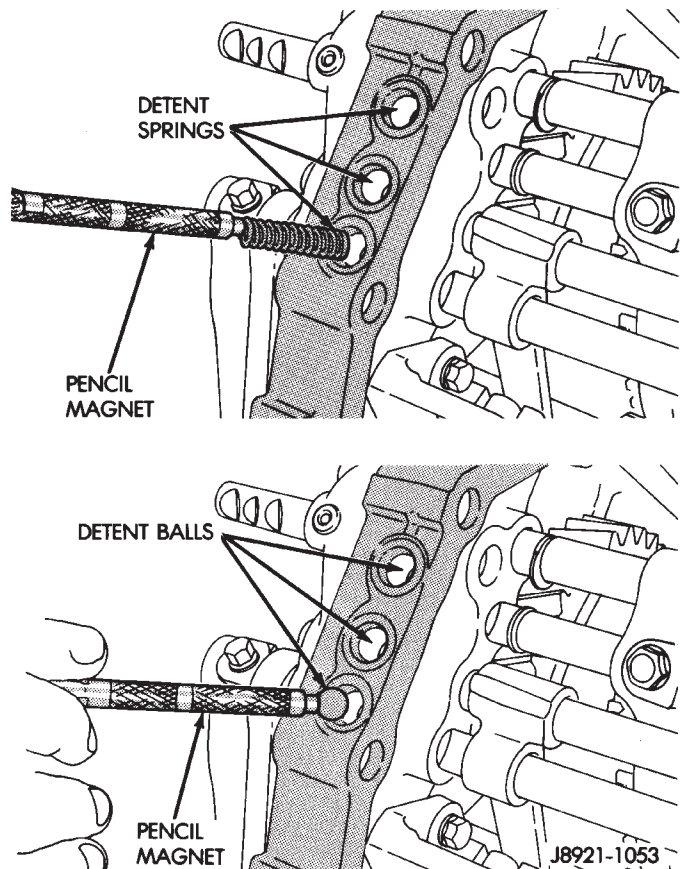

Fig. 23 Removing/Installing Lock Ball And Spring
(2) Remove three lock ball springs and lock balls from intermediate plate with pencil magnet (Fig. 23).
(3) Mount intermediate plate and geartrain assembly in vise as follows: